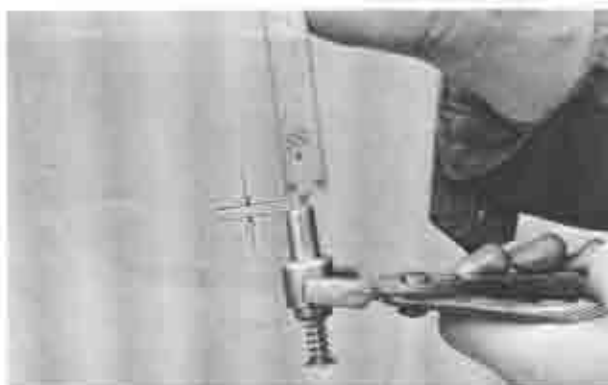

Fig. 2-7 Checking by-pass valve
2. Soak the by-pass valve in hot oil of $75^\circ\text{C} \sim 80^\circ\text{C}$ ($167^\circ\text{F} \sim 176^\circ\text{F}$). If the protrusion of piston is more than 5 mm (0.2 in), the by-pass valve is normal. (Fig. 2-7)